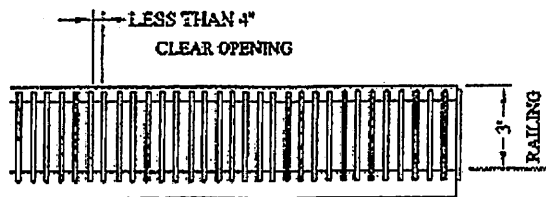

Figure 14
9. A railing is required around any deck more than 30" above grade. The railing must be 36" high, have balusters no more than 4" apart. (Figure 14)